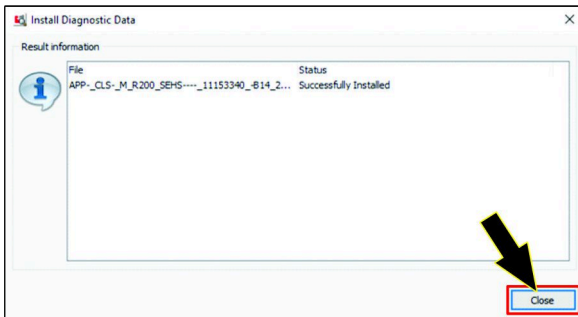

Figure 46
6. In the RESULT INFORMATION dialog box, click the CLOSE icon (Figure 46).